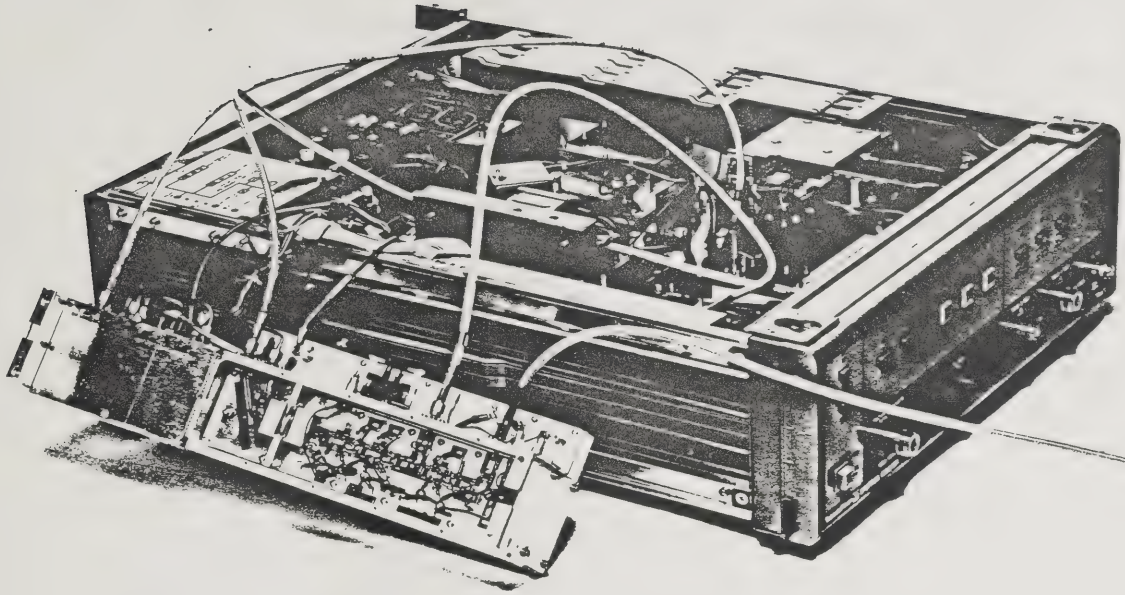

Fig. 11-57 MEP-346 removal
(1) 3.33 MHz local OSC adjustment
- (a) Set the POWER switch to STANDBY, and remove the TG block (MEP-346) from the chassis. For quick removal, temporarily remove the standard block (MEP-342) and counter switch (MEP-349) before removing the TG block. Use extension cables to establish the original electrical connections between the TG block and the analyzer mainframe. (See Figure 11-57.)